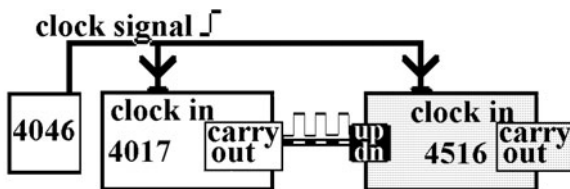

Figure L45-10
4. Remember the carryouts of the 4017? It is high for the first five numbers, and then goes low for the second five numbers. Try the setup shown in Figure L45-10. Connect the 4017 carryout to the up/down counter of the 4516. Predict what's going to happen. Were you right?